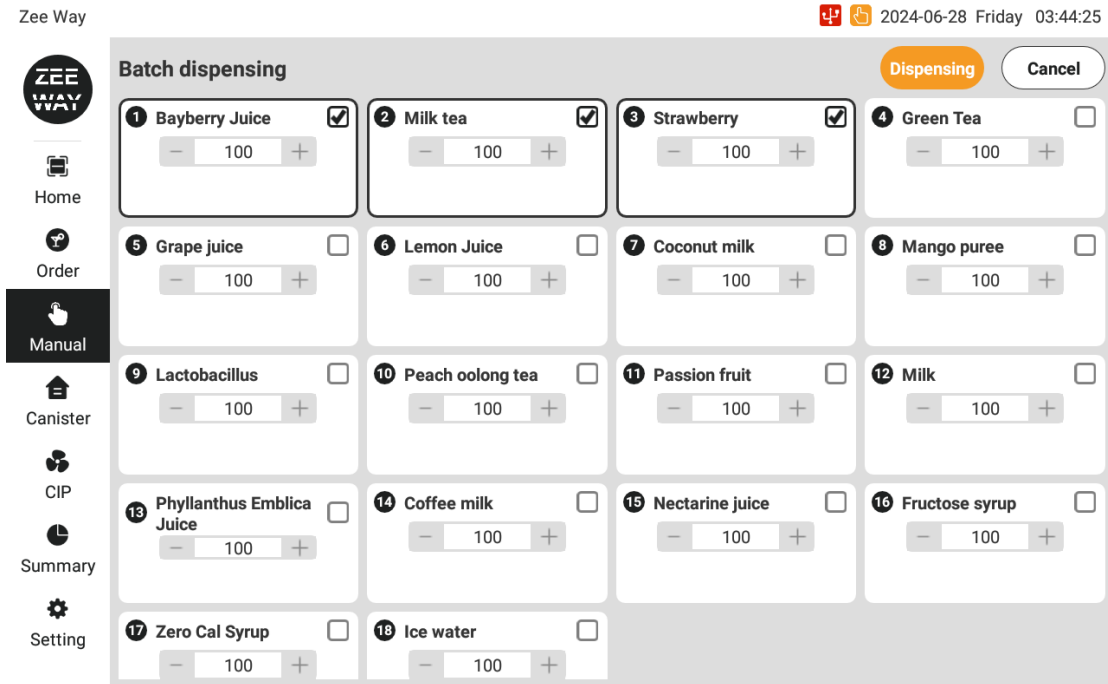

Fig. 4.3.4
- Batch dispensing: Click the batch dispensing button, select the canister to be dispensed, enter the corresponding ration quantity, and click dispense (Fig. 4.3.4)